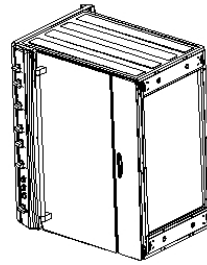

Fig.2
2. Put the Carton on the ground and place the oven side on the cartons. (Figure 2)